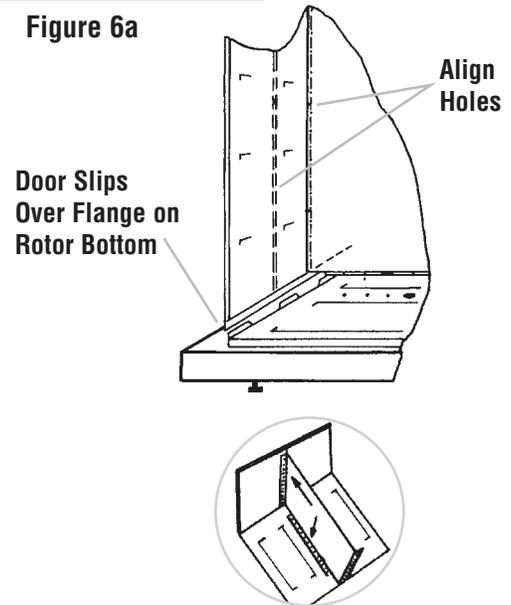

Figure 6 - Door and Center Panel
STEP 5 - DOORS AND CENTER PANELS (Figure 6)